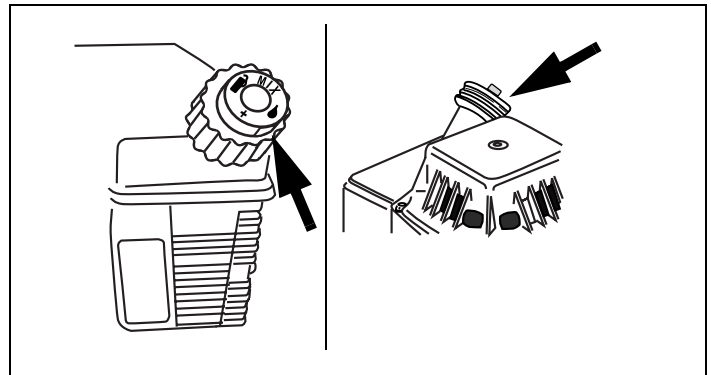

Figure 8. Optional Air Vents
Replace a damaged or missing fuel fill cap only with a genuine Tecumseh replacement fuel fill cap. Failure to do so may **VOID YOUR WARRANTY**. See Figure 8.
3. Be sure air vent on fuel cap is free of debris. Be sure air vent screw, if present (see equipment manufacturer's instructions), on fuel cap is open. See Figure 8.